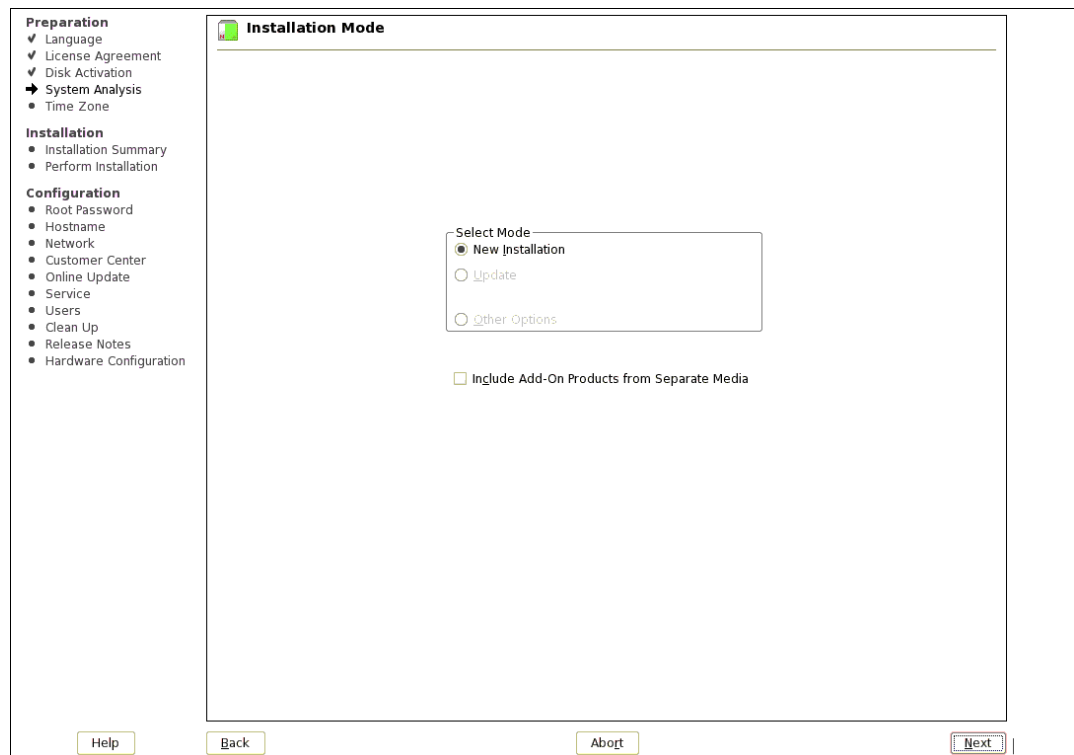

Figure 6-55 New Installation
6. Select Installation mode as **New Installation**, as shown in Figure 6-55.